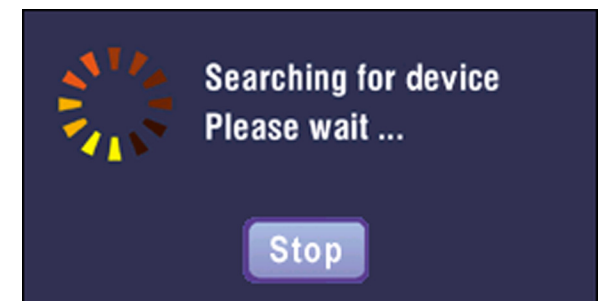

Figure 8-8: Setup Complete
3. Then the Bi-Admin Management Utility will automatically scan the network for the USB PrintServer. (See Figure 8-8.)